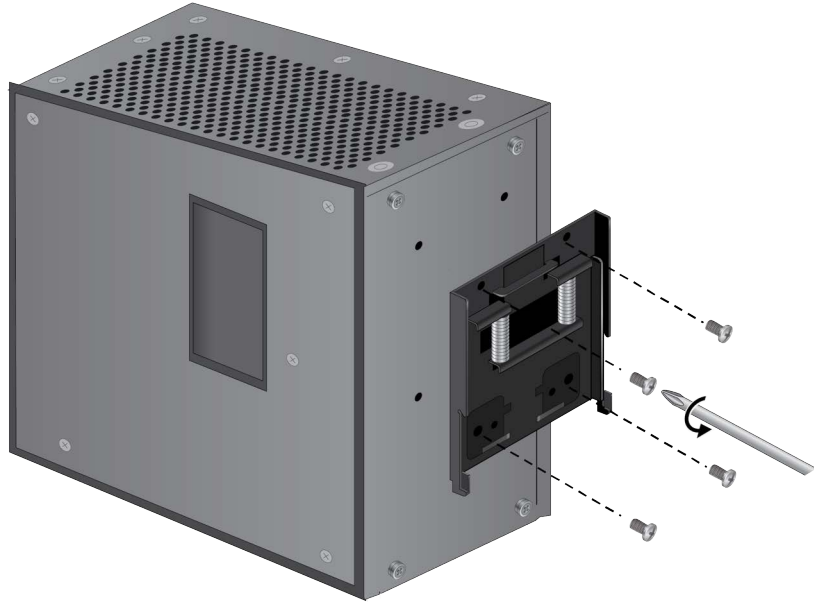

Figure 19. Removing the DIN Rail Bracket from the Switch
2. With a Phillips-head screwdriver, remove the four screws holding the pre-installed DIN rail bracket, and remove the bracket. Refer to Figure 19 on page 70.